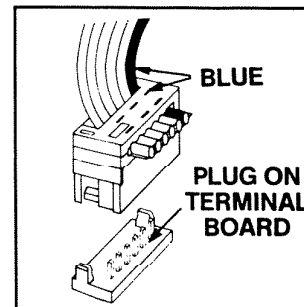

FIGURE 6
- (D) Plug the cable connector into the appropriate remote speaker plug on the terminal board. See Figure 6.